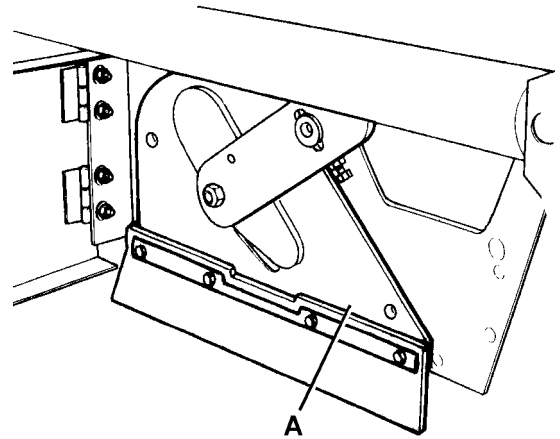
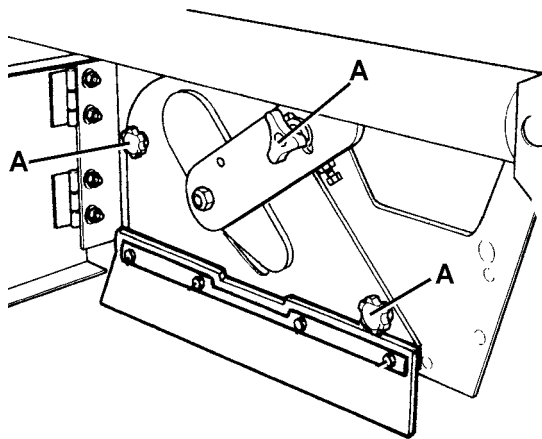

Figure 6
Figure 5
1. Drive the machine on a level ground and engage the parking brake with the pedal (84) and the lever (76).
2. Turn the ignition key (69) to "0" and remove it.
3. Release the fastener (8) and open the right door (7).
4. Unscrew and remove the knobs (A, Fig. 5).
5. Remove the main broom compartment cover (A, Fig. 6).
10. Install the main broom compartment cover (A, Fig. 6) and screw the knobs (A, Fig. 5).
11. Close the right door (7) and engage the fastener (8).